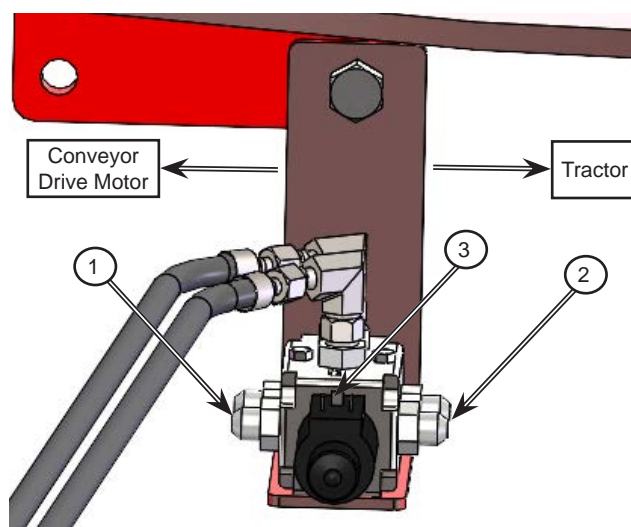

Figure 1.4: ESV connection points
7. The ports on the ESV that are on the side closest to the centerline of the machine (1) connect to the conveyor drive motor; see *Figure 1.4*.
- b. Connect these hydraulic hoses to the correct ports (1) on the ESV.
8. The P1 and P2 ports, on the opposite side (2), connect to the tractor; see *Figure 1.4*.
- b. Connect these hydraulic hoses to the correct ports (2) on the ESV.
9. Connect the selector valve electrical harness to the power connection (3) on the ESV; see *Figure 1.4*.